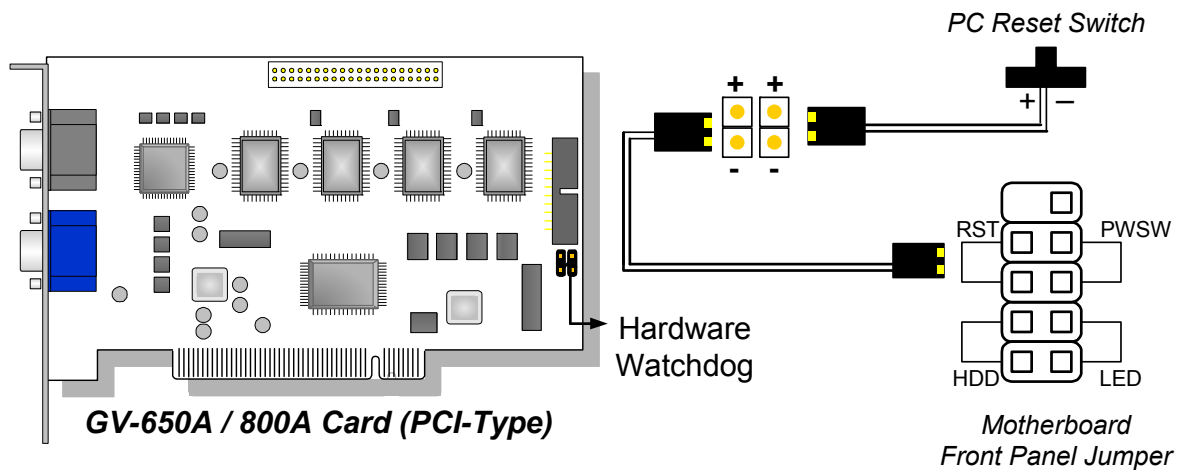

Figure 1-44
- **Hardware Watchdog Connection:** Connect the supplied Hardware Watchdog Jump Wire to the Master Card only (Figure 1-44).